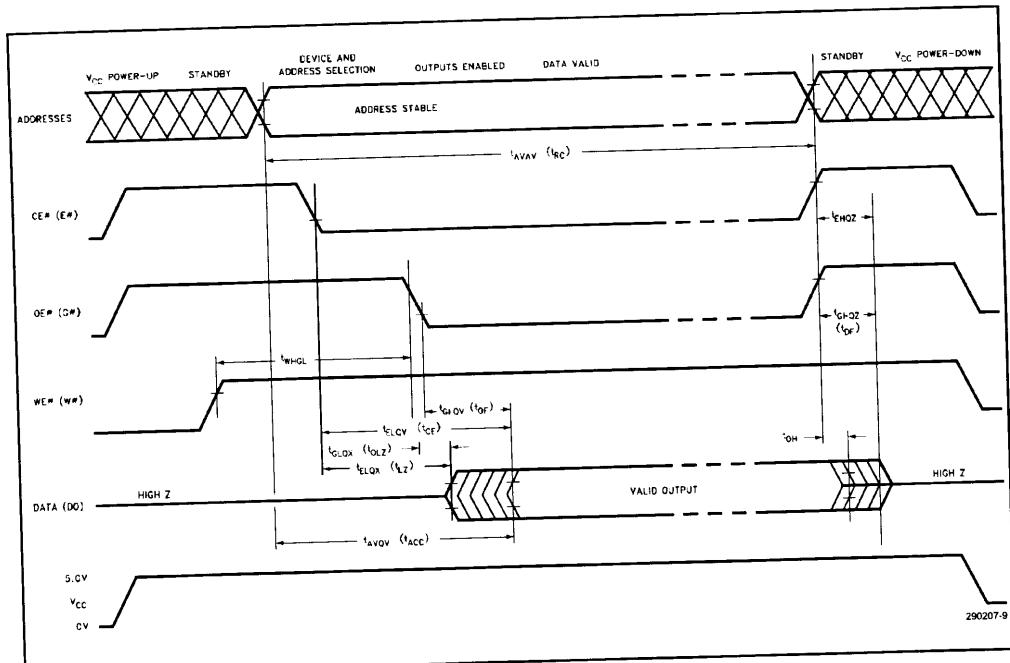

Figure 8. AC Waveforms for Read Operations
4. See *High Speed AC Testing Input/Output Waveform* (Figure 8) and *High Speed AC Testing Load Circuit* (Figure 9) for testing characteristics.